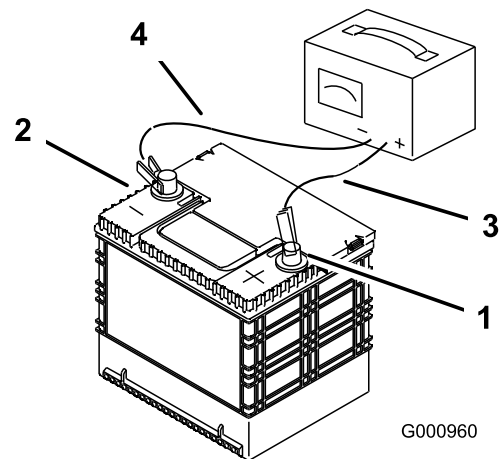

Figure 63
2. When the battery is fully charged, unplug the charger from the electrical outlet, then disconnect the charger leads from the battery posts (Figure 63).